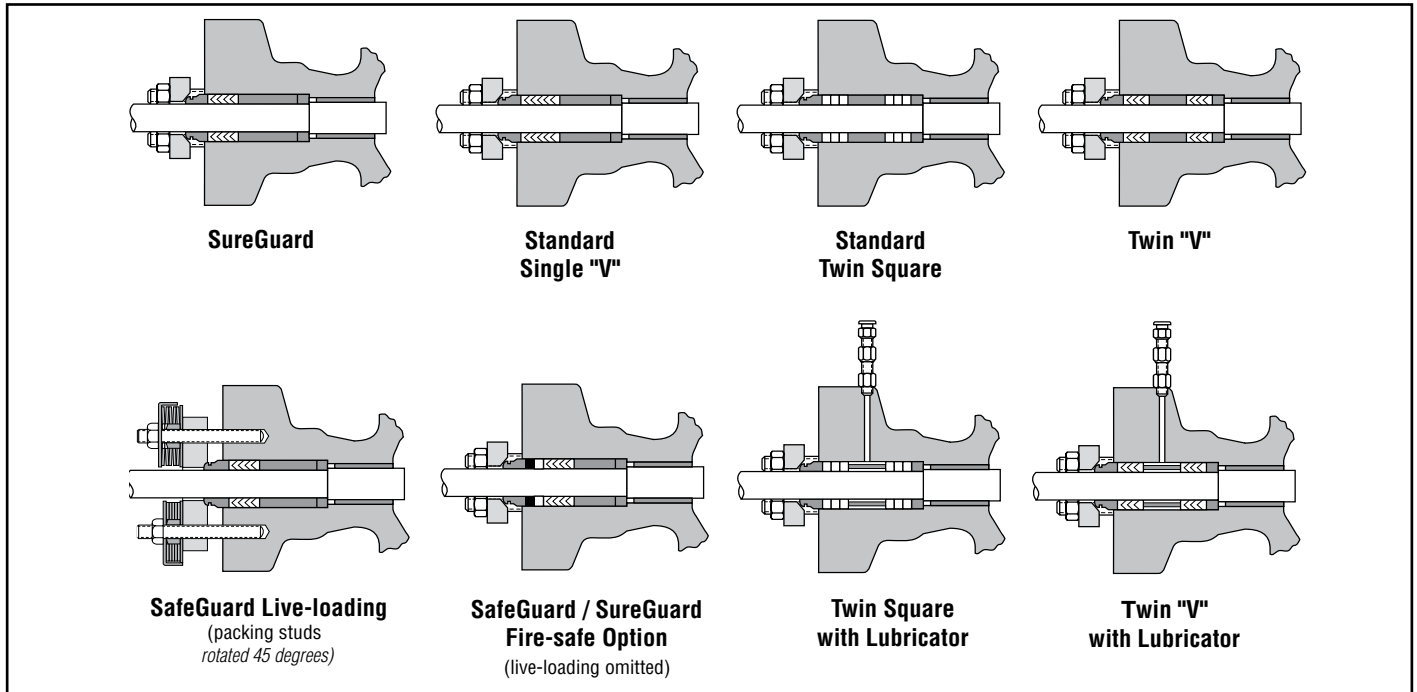

Figure 3: ShearStream HP Packing Configurations
8.2.9 Slide thrust bearing, packing spacer, packing, and packing follower over the splined end of the shaft and into body. Typical packing configurations are shown in Figure 3. (1-inch designs refer to Step 6.)